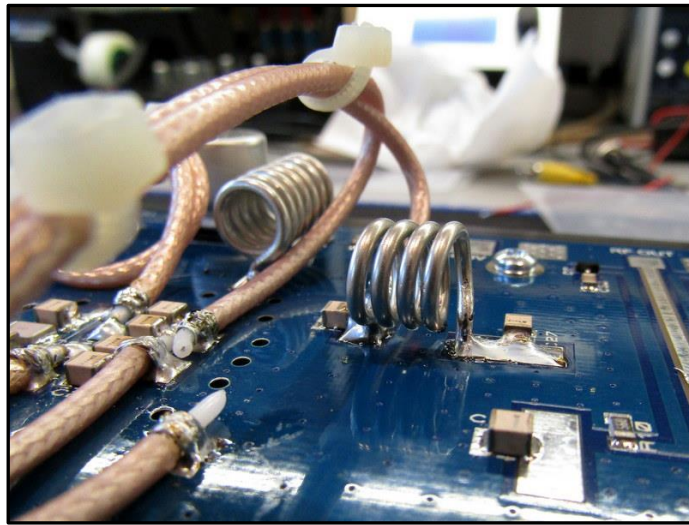

Figure 13: L8 Position.
15. Identify the two remaining 150mm sections of RG316 50Ω coaxial cable. Strip 6mm of the insulation from each end and prepare one piece of coax for mounting to the PCB (fold back and solder earth braid and strip the centre conductor). Solder to the PCB to form the output balun Z4 as in figure 13. One end of the coax is connected to the right of C20 & C21, the other to ground & C26.